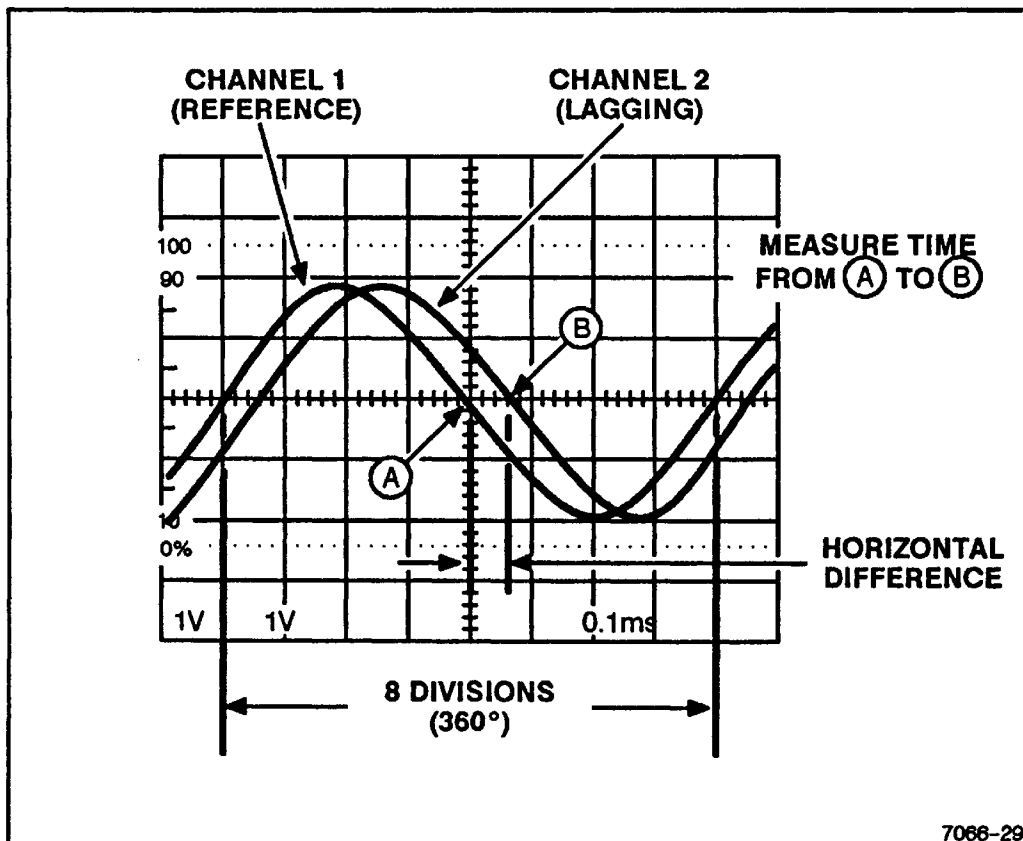
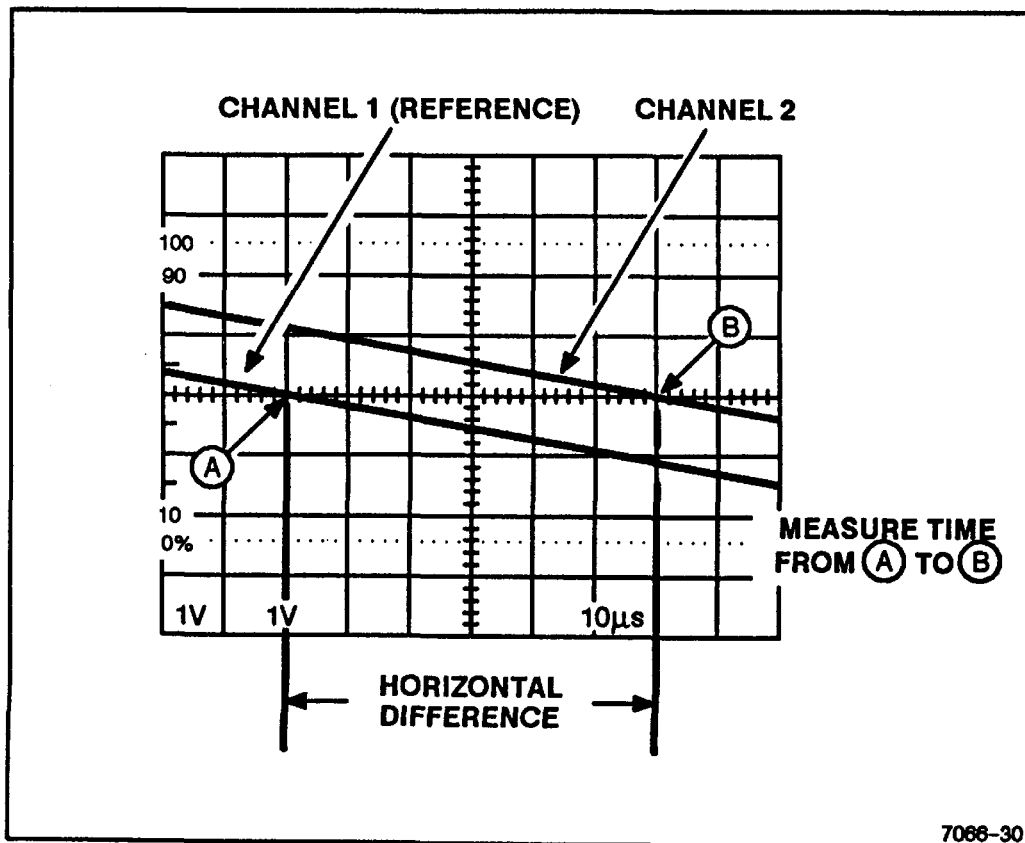

Figure 6-8. Phase difference.
Figure 6-9. High-resolution phase difference.
9. Position the displays and adjust the SEC/DIV Variable control so that one reference-signal cycle occupies exactly eight horizontal graticule divisions at the 50% rise-time points (see Figure 6-8). Each division of the graticule now represents 45° of the cycle ($360^\circ \div 8$ divisions), and the horizontal graticule calibration can be stated as 45° per division.
EXAMPLE: The horizontal difference is 0.6 division with a graticule calibration of 45° per division as shown in Figure 6-8.
EXAMPLE: If the sweep speed were increased 10 times with the magnifier (X10 Magnifier out), the magnified horizontal graticule calibration would be 45°/division divided by 10 (or 4.5°/division). Figure 6-9 shows the same signals illustrated in Figure 6-8, but magnifying the displays results in a horizontal difference of 6 divisions between the two signals.